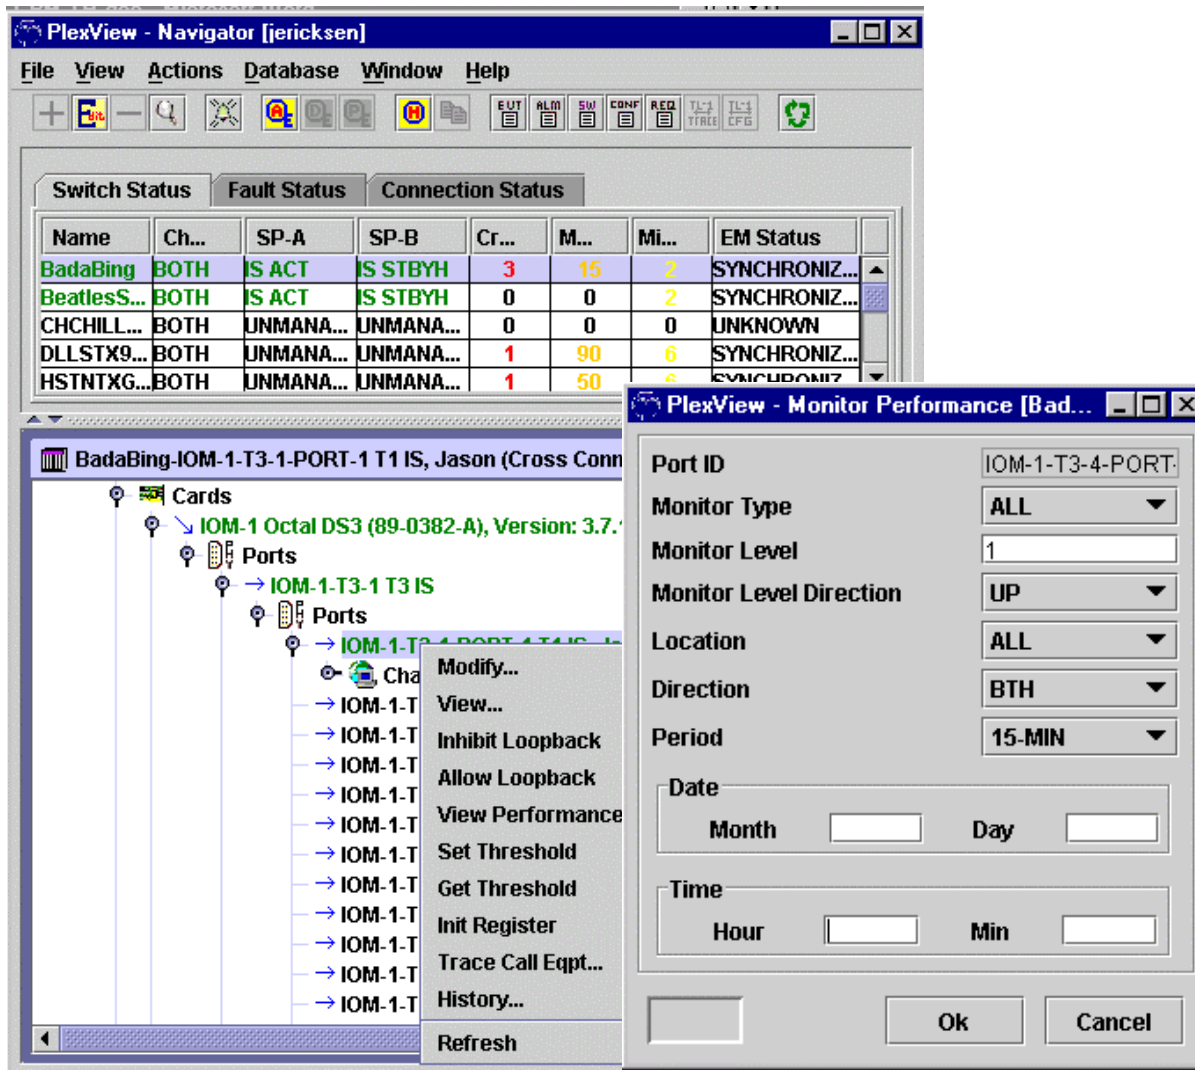
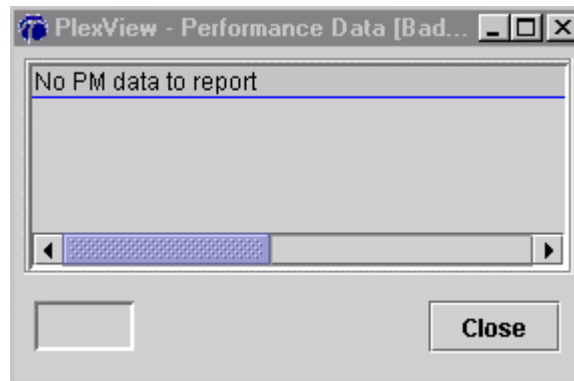

Figure 1. Monitor T1 Performance
**Figure 2. Performance Data**
4. Retrieve current and historical performance data for T1 ports. Double-click *Switch*, *Switch name*, *Cards*, desired *IOM*, *Ports*, desired port, and *Ports*. Right-click desired port, select *View Performance*. Make changes if necessary and then click *Ok*. Refer to Figure 1. After clicking *Ok*, you will see a screen similar to Figure 2.